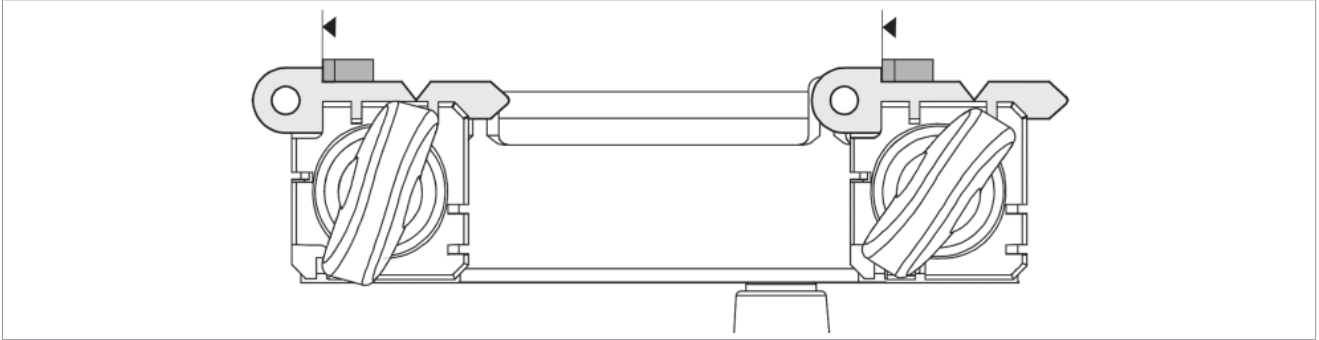

Fig. 19
- 2) Place the adjustment keys (provided) on the clamps (Fig. 19).
- 4) Turn the shoulder gauge rod towards the operator so that the gauges (Q1) are in contact with the adjusting plates (Fig. 19).